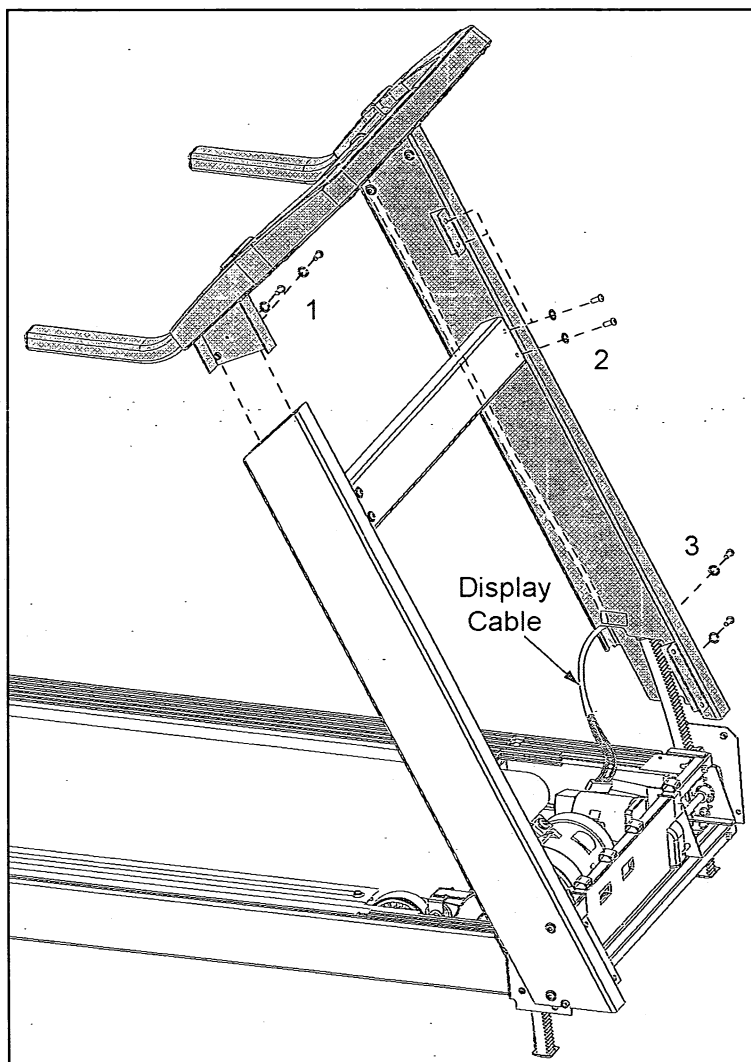

Figure 6
- B.** Place the assembly in position on the treadmill base. See Figure 6. Keep the display cable away from the elevation rack. Be sure that the display cable does not get pinched, cut or damaged during this process.
- C.** Using the Allen wrench, loosely attach two button head screws and two star washers in three locations; 1.) into the top of the right upright, 2.) into the cross brace and 3.) into the bottom left upright. See Figure 6.